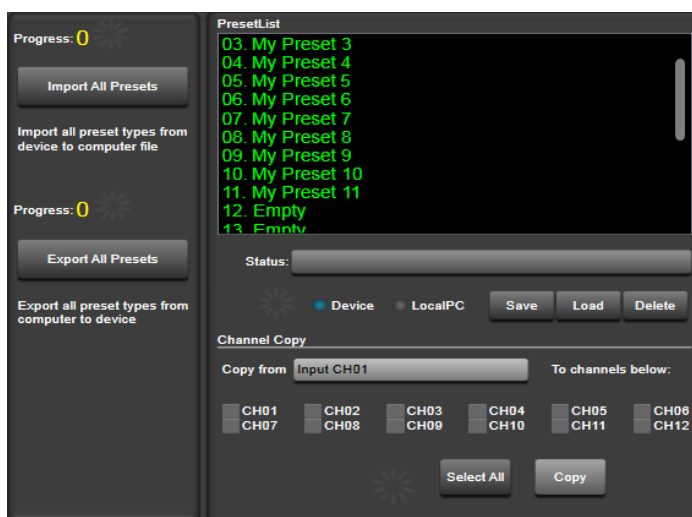

Fig. 27 View "Save/Load/Copy"
### 7.12 View "Save/Load/Copy" (fig. 27)
The name of the input or output selected can be found in the field "Copy from" (☞ fig. 27).
- 3) Under "To Channels below:" (☞ fig. 27), select the channels to which these settings are to be copied.